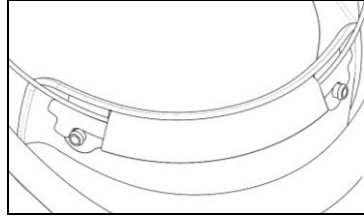

Fig. 32
N.B.: the side parts of the antenna must be positioned above the buttons to allow the correct hooking of the comfort padding (Fig. 32).